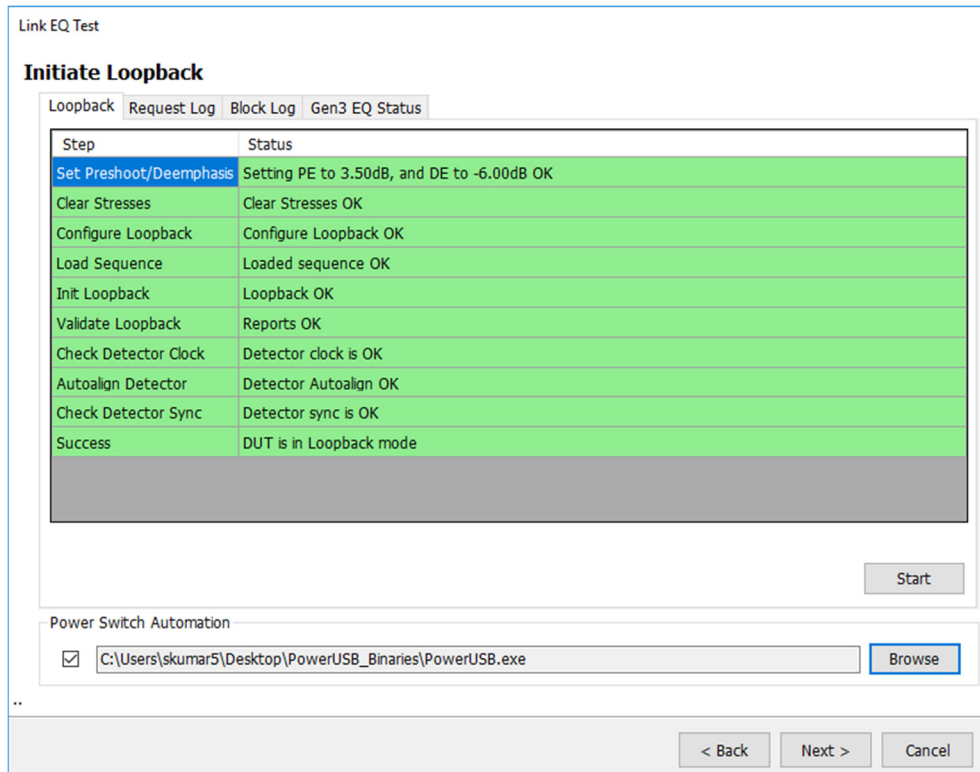

Figure 36
4. Enable the Power Switch Automation and load the Script .exe file which will Power ON the DUT during loopback as shown in Figure 36.